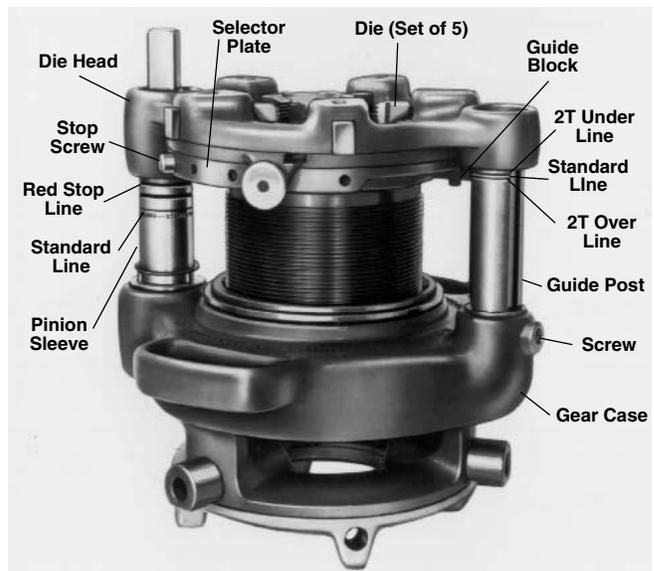

Figure 17 – No. 141 Geared Threader with 844 Drive Bar Installed (No. 161 Threader Similar)
1. Remove stop screw (*Figure 17*) from selector plate.
IMPORTANT! Allow approximately $\frac{3}{4}$ " of V-shaped grooves exposed in front of chuck jaws (*Figure 17*) to allow space for oiling.
- 141 and 161 – Release foot switch when red STOP line appears on pinion sleeve (Figure 17).
IMPORTANT! Allow approximately $\frac{3}{4}$ " of V-shaped grooves exposed in front of chuck jaws (Figure 17) to allow space for oiling.